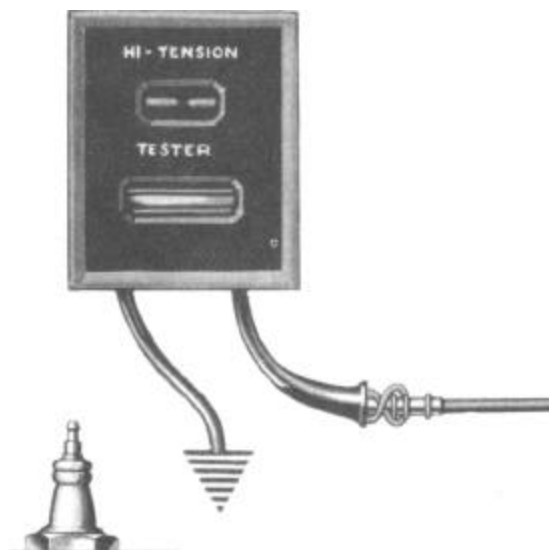

Figure 30--High Tension Cable Test
1. Connect tester to No. 1 spark plug cable and ground as shown in Figure 30. Run engine at idle and set tester at 7 M.M.